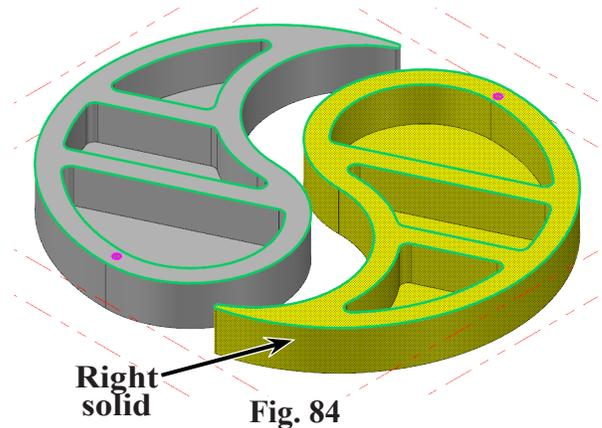

Fig. 84
Step 2. Click the **right Tray solid**, Fig. 84.